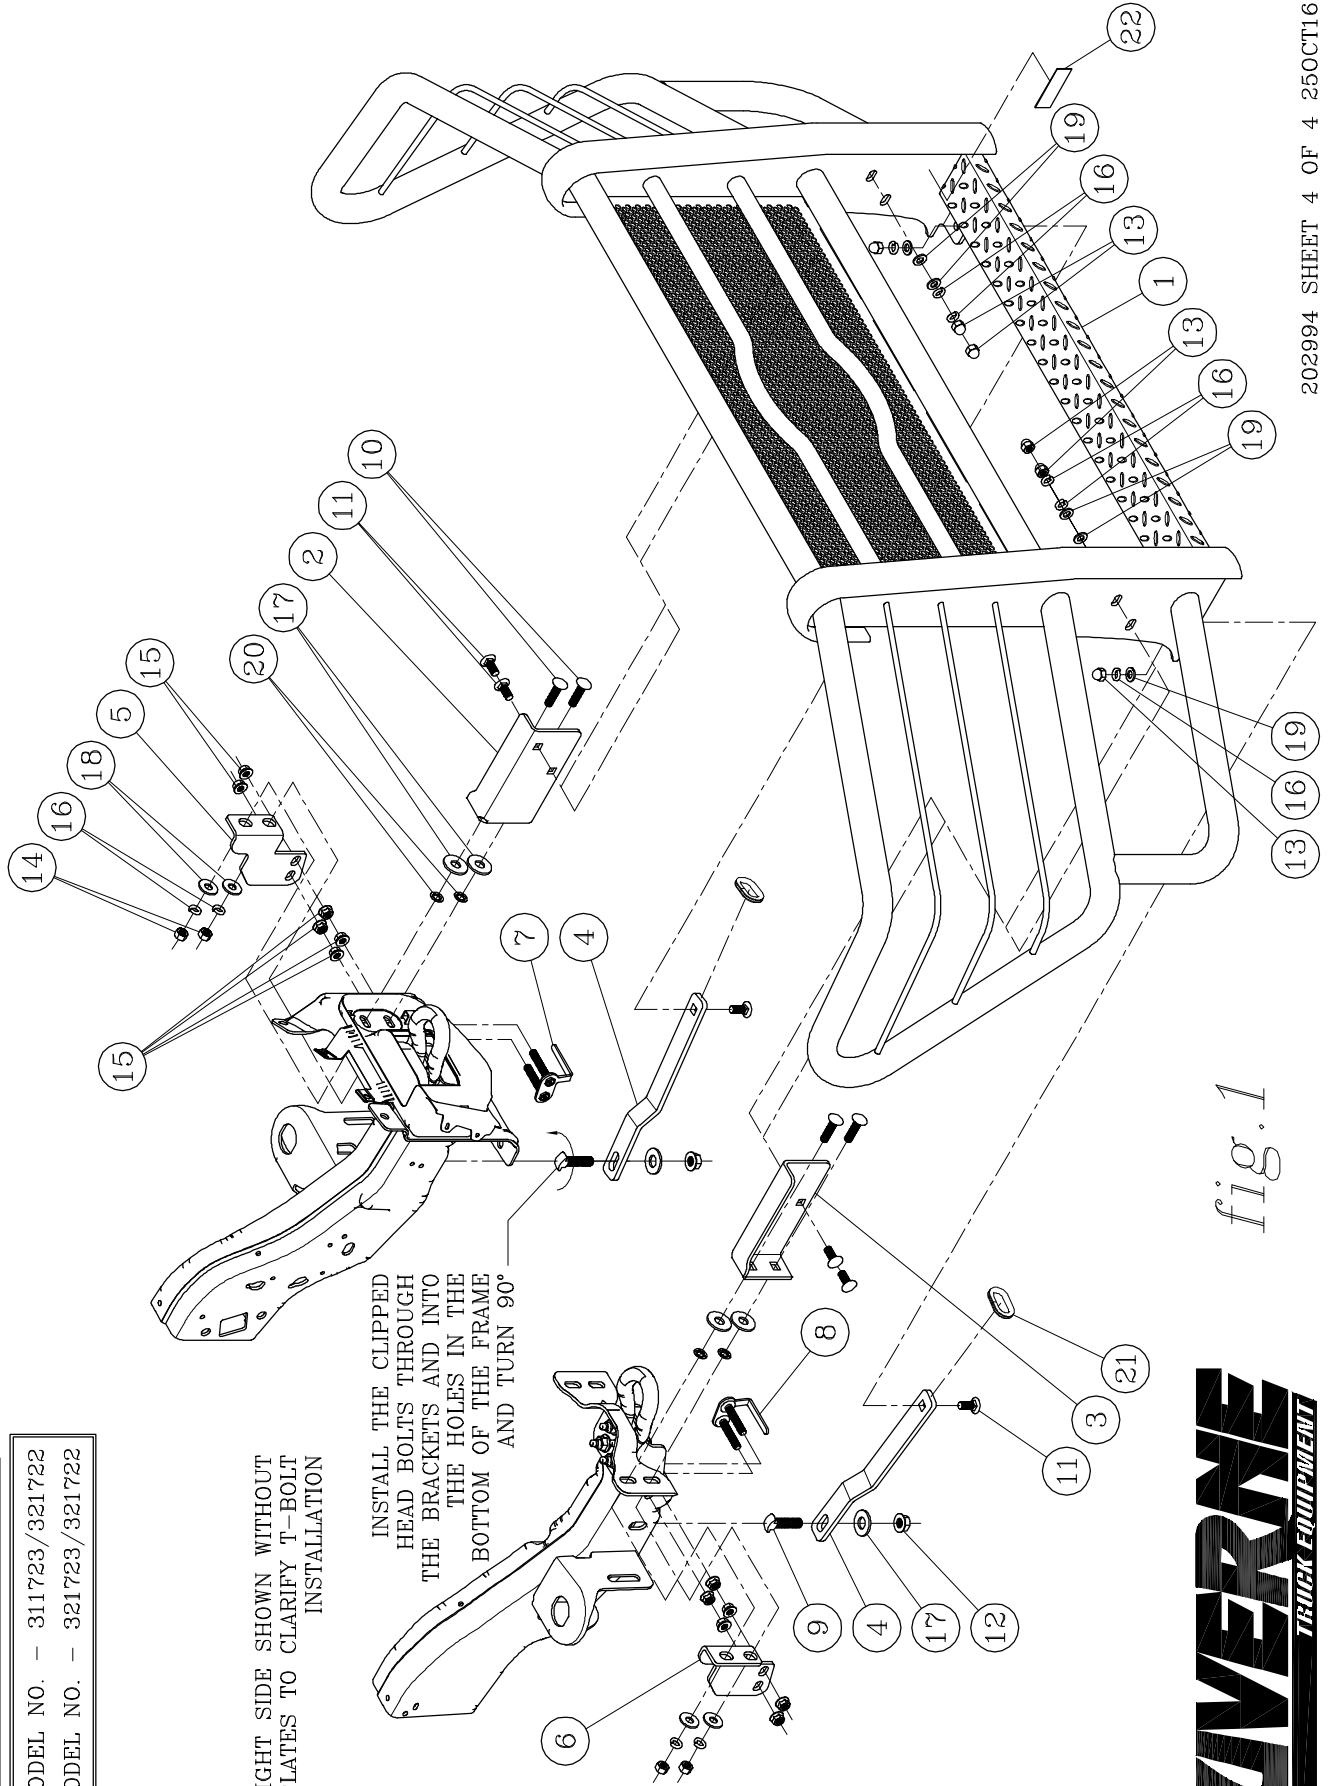

fig.1
12. INSERT THE ASSEMBLED BRACKET INTO THE HOLES IN THE BUMPER AND FASTEN WITH 1/2" FLAT WASHERS (ITEM #18), 1/2" LOCK WASHERS (ITEM #16) AND 1/2" HEX NUTS (ITEM #14) AS SHOWN IN FIG. 1 & 2. HAND TIGHTEN ONLY AT THIS TIME.
14. INSTALL THE GRILLE GUARD (ITEM #1) BY INSERTING IT BETWEEN THE LEFT HAND (ITEM #2) AND RIGHT HAND (ITEM #3) MOUNTING BRACKETS AND FASTENING WITH THE 1/2"-13 X 1-1/4" CARRIAGE BOLTS (ITEM #11), (2) 1/2" SAE FLAT WASHERS (ITEM #19), 1/2" LOCK WASHERS (ITEM #16) AND 1/2"-13 ACORN NUTS (ITEM #13).
15. ATTACH THE BOTTOM MOUNTING BRACKETS TO THE BOTTOM OF THE UPRIGHTS WITH THE 1/2"-13 X 1-1/4" CARRIAGE BOLTS (ITEM #11), (2) 1/2" SAE FLAT WASHERS (ITEM #19) , 1/2" LOCK WASHERS (ITEM #16) AND 1/2"-13 ACORN NUTS (ITEM #13).